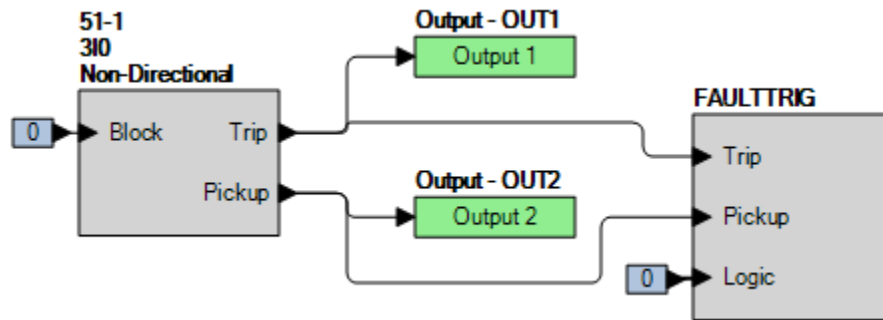

Figure 74-2. BESTlogicPlus Settings (310 Mode)
Step 2: Use BESTCOMSPPlus to configure the BESTlogicPlus programmable logic shown in Figure 74-2.
Step 4: Prepare to monitor the 51-1 function operation. Operation can be verified by monitoring OUT2 (see Figure 74-2).